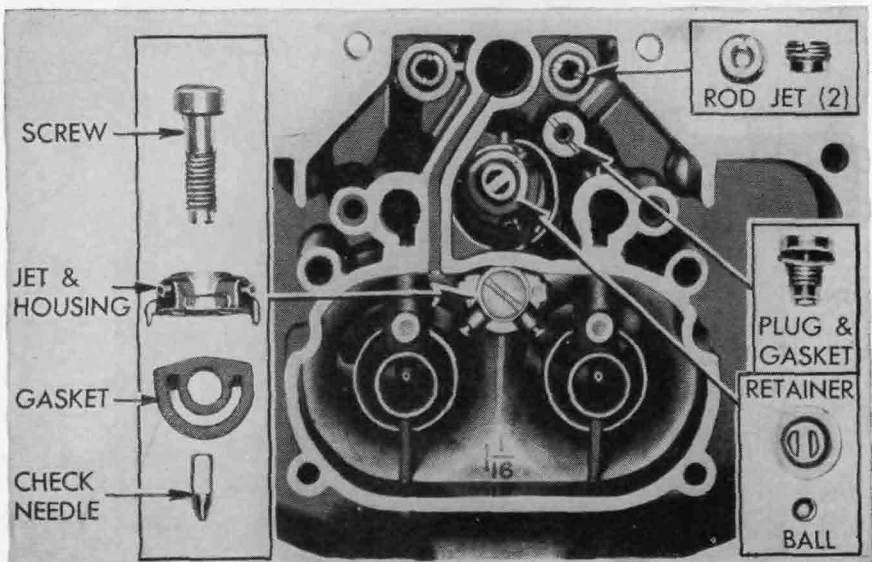

FIG. 10-20. Location of jets, housing, and other parts in main body. (Buick Motor Division of General Motors Corporation)
assembly, lower pump spring, screw, jet and housing assembly, gasket, and pump check (Fig. 10-20).
9. Remove other parts from main body, including rod jets, pump-relief plug and gasket from bowl, and pump intake check ball retainer (Fig. 10-20). Use a wire with a hook on the end of it to remove retainer. Take off body flange assembly and gasket.